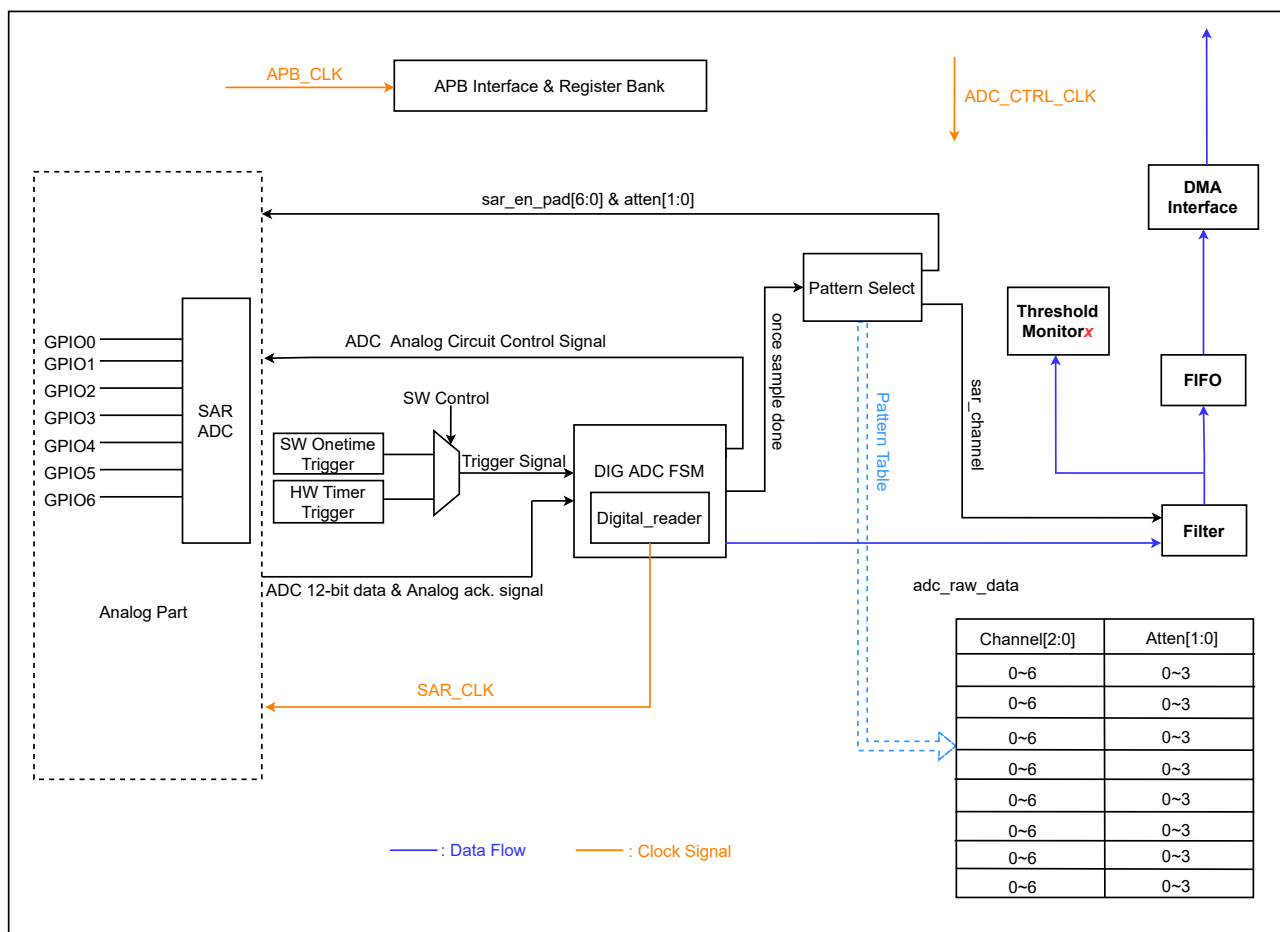

Figure 39.2-1. SAR ADCs Function Overview
As shown in Figure 39.2-1, the SAR ADC module provides the following functions and consists of the following components:
- Transfer the data to the filter, and then threshold monitor transfers the data to memory via DMA (see Figure 39.2-1).